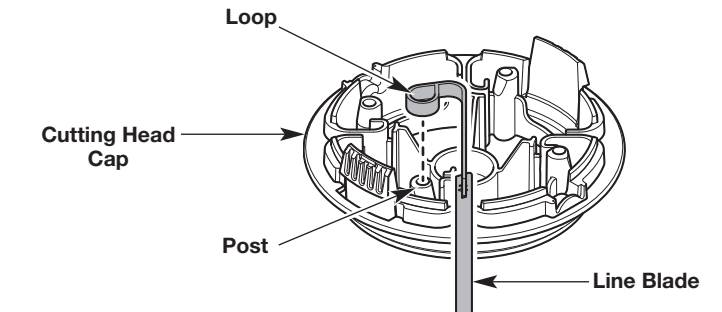

Fig. 27
5. Hold one of the line blades so that the loop faces to the left. Align the loop with one of the posts on the cutting head cap (Fig. 27). Push the loop onto the post securely.